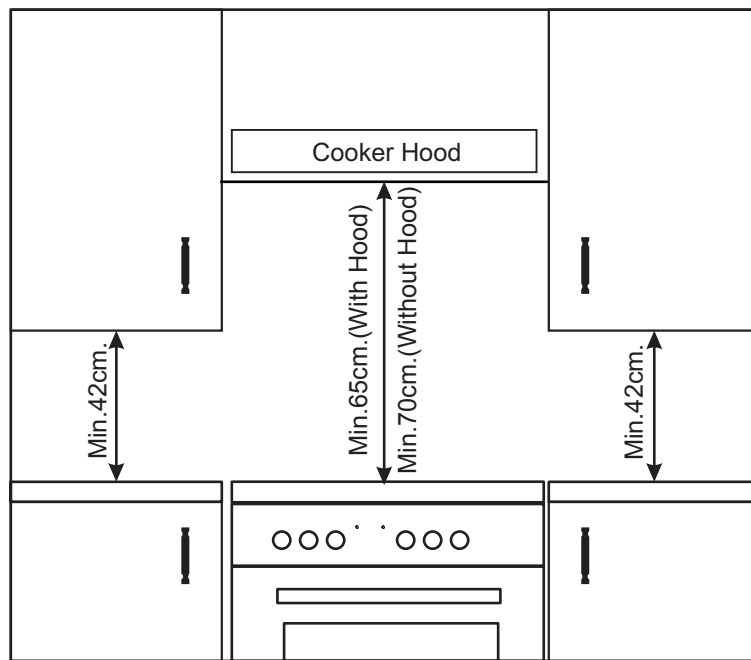

Figure 1
- d)** Place the wall cabinets adjacent to the hood at a minimum height of 42cm from the hobs as indicated in figure 1.
- f)** Should the cooker be installed beneath a wall cabinet, the latter should be situated at least 70cm away from the hobs as indicated in figure 1.
- g)** The cut-out for the cooker cabinet should have the dimensions indicated in the figure 1.